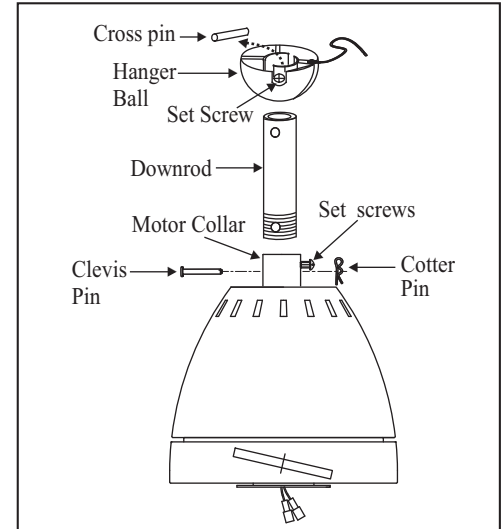

Figure 7
3. Remove the clevis pin, cotter pin and set screws from the top of the motor assembly. (Figure 7)
4. Take out the setscrew located in the hanger ball, lower the hanger ball and remove the cross pin. Remove the hanger ball from the hanger ball/downrod assembly. (Figure 7)